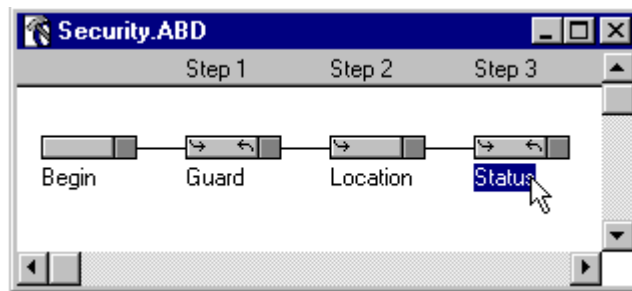

Figure 3-45 Select “Status” Handler
39. Click the “Status” Handler to select it (Figure 3-45).